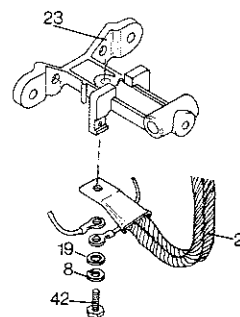

Figure 5
5. Slide out the contact arm pin (24) after removing the hex head nut, lockwasher, and set screw (26).
6. Remove the contact arm assembly (22).
7. Remove the magnet frame (38) from the contactor by removing hex head nuts (43) and lockwashers (8).
8. Remove the silicon bronze hex head cap screw (11) on the front of the magnet core and remove the lockwasher (13), core cap spacer (34), core cap (35) and coil (36).
9. Install the new coil using the core cap, core cap spacer and lockwasher and tighten the silicon bronze hex head screw. Note that the steel core cap, which is thicker than the non-magnetic phospher bronze spacer, must be installed against the coil. (See Exploded View). Check that the spring washer (37) is so positioned that the outside edge is against the coil (36) and not against the magnet frame.
14. Replace the auxiliary arm spring retainer and spring using lockwashers and hex head screws. Check that the auxiliary arm spring is properly seated between the auxiliary arm spring retainer and the auxiliary arm (Fig. 5).
2. Disconnect the arc chute wires by removing the hex head cap screw (42), washer (19), lockwasher (8), arc chute wires and shunt (21).
4. Remove the arc chute by removing hex head nut (12), lockwasher (8), hex head cap screw (40) and the arc chute.
7. Reconnect arc chute wires and shunt (Fig. 5) using the washer, lockwasher and hex head cap screw.
1. With all power removed, disconnect the bottom end of the shunt (21) by removing hex head cap screw, lockwasher, washer, arc chute wires and the shunt.
2. Disconnect the top end of the shunt (21) by removing hex head nut, lockwasher, washer and the shunt.
3. Check that auxiliary arm pin (27) is centered and set screw (18) is tight.
5. Connect the bottom end of the shunt by replacing the shunt, arc chute wires, washer, lockwasher and hex head cap screw (Fig. 5).